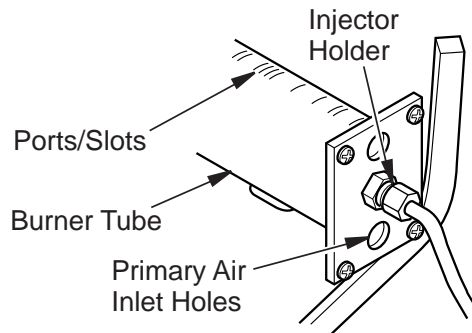

Figure 50 - Injector Holder On Outlet Burner Tube
2. Inspect burner, pilot, and primary air inlet holes on injector holder for dust and dirt (see **Figure 50**).